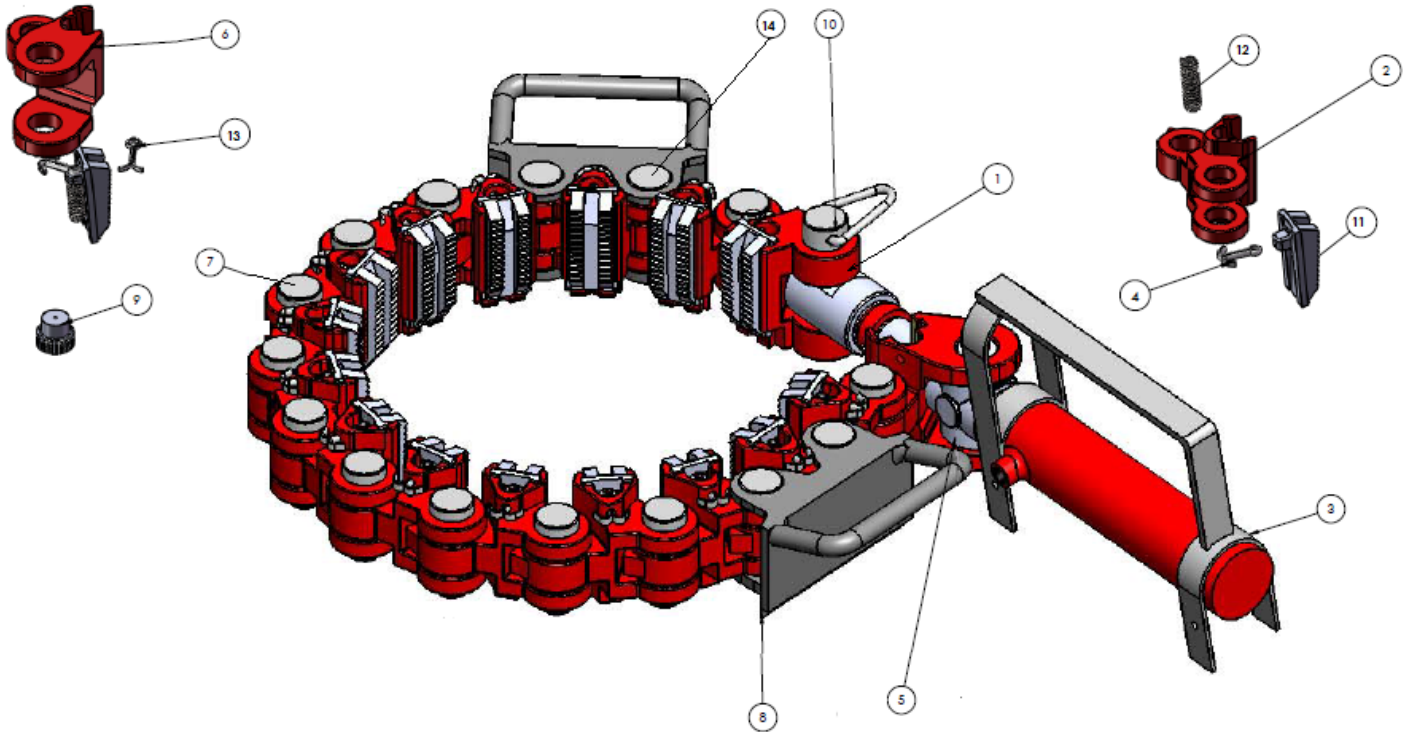

Figure 13 – Air over hydraulic type C safety clamp
To install the T and C type clamp on the pipe, remove the hinge (T) pin (Item 10 in Figure 13). On the MP, remove (if needed) the pull back ram from the latch link segment shown in Figure 7. Wrap clamp like a belt using the handles around the pipe. Re-insert the pin on the T and C and on MP, push the pull back ram back into the latch link segment, keeping the thrust washer in the curve of the latch link segment. Depress the bottom (marked PUMP) of the foot or hand actuated pump to tighten clamp. When